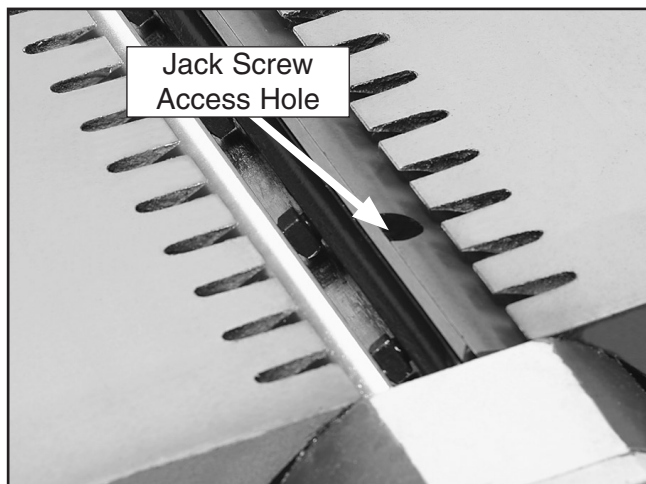

Figure 45. Jack screw access hole.
- a. Using a 3mm hex wrench, find the jack screws through the access holes in the cutterhead (**Figure 45**) and rotate the jack screws to raise or lower the knife. When the knife is set correctly, it will barely touch the bottom of the straightedge or the knife setting jig middle pad.